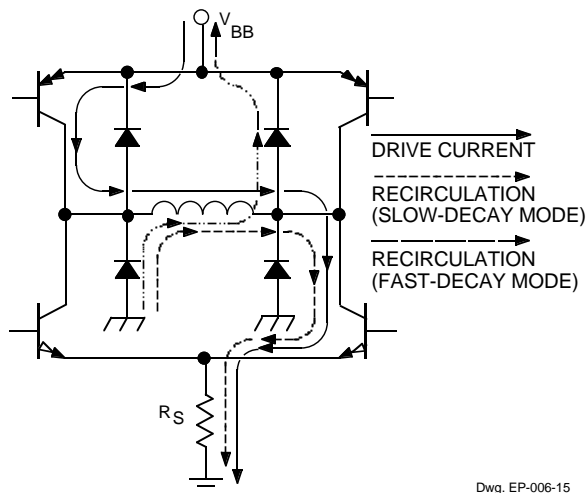

Figure 1 — Load-Current Paths
**Internal PWM Current Control.** Each motor driver IC contains an internal fixed off-time PWM current-control circuit that limits the load current to a desired value ( $I_{TRIP}$ ). Initially, a diagonal pair of source and sink transistors are enabled and current flows through the motor winding and  $R_S$  (figure 1).
**Slow Current-Decay Mode.** When  $V_{PFD} \geq 3.5$  V, the device is in slow current-decay mode (the source drivers are disabled when the load current reaches  $I_{TRIP}$ ). During the fixed off time, the load inductance causes the current to recirculate through the motor winding, sink driver, ground clamp diode, and sense resistor (see figure 1). Slow-decay mode produces low ripple current for a given fixed off time (see figure 2). Low ripple current is desirable because the average current in the motor winding is more nearly equal to the desired reference value, resulting in increased motor performance in microstepping applications.
**Fast Current-Decay Mode.** When  $V_{PFD} \leq 0.8$  V, the device is in fast current-decay mode (both the sink and source drivers are disabled when the load current reaches  $I_{TRIP}$ ). During the fixed off time, the load inductance causes the current to flow from ground to the load supply via the motor winding, ground-clamp and flyback diodes (see figure 1). Because the full motor supply voltage is across the load during fast-decay recirculation, the rate of load current decay is rapid, producing a high ripple current for a given fixed off time (see figure 2). This rapid rate of decay allows good current regulation to be maintained at the cost of decreased average current accuracy or increased driver and motor losses.